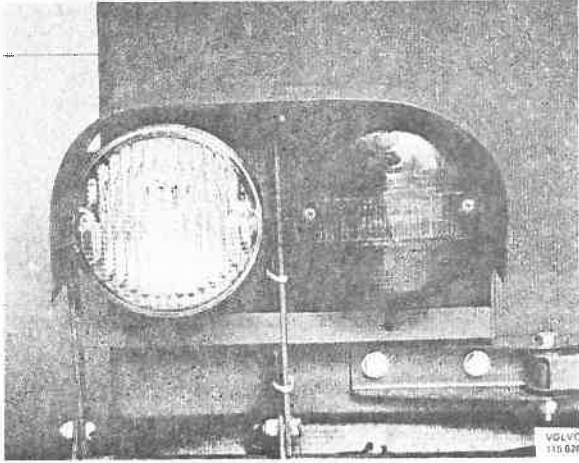

Fig. 35-9. Reverse light and tail light
1. Remove the screws on the light lens of the bulb to be replaced, see Fig. 35-9.